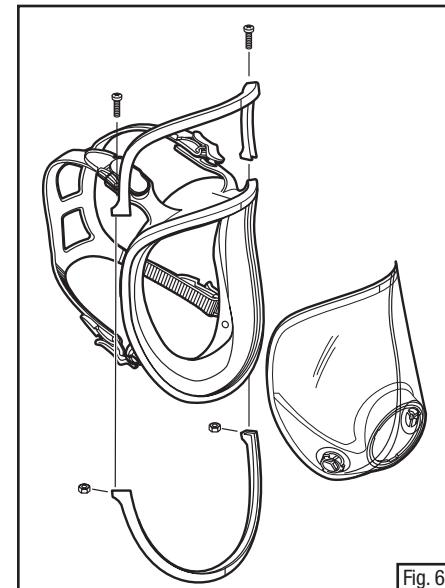

Fig. 6
2. Position bottom frame, aligning center vertical mark, and press in place (Fig. 6).